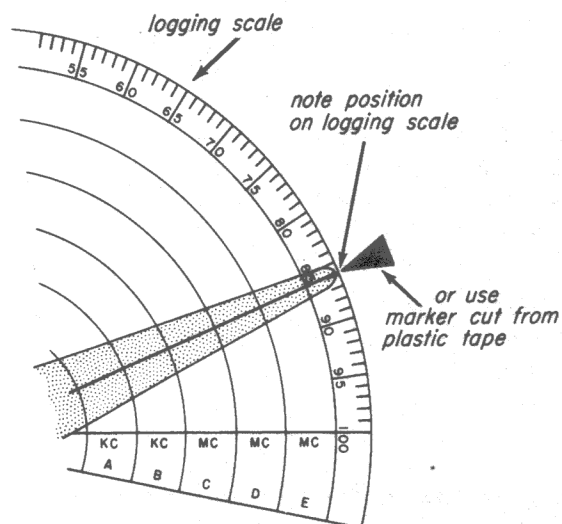

Fig. 31-6
Step 16. Mark the position of the pointer, or record its position on the logging scale as shown in Fig. 31-6. One convenient way to